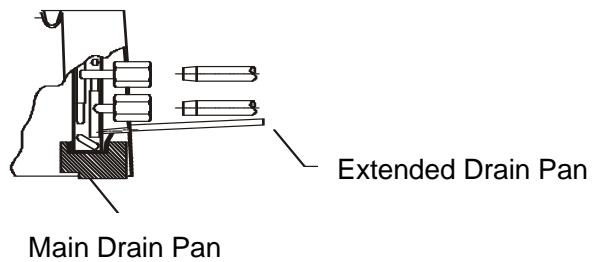

Figure 11
3. Tighten the two screws and making sure the external drain pan is installed flush with the fixing plate. (Figure 11)